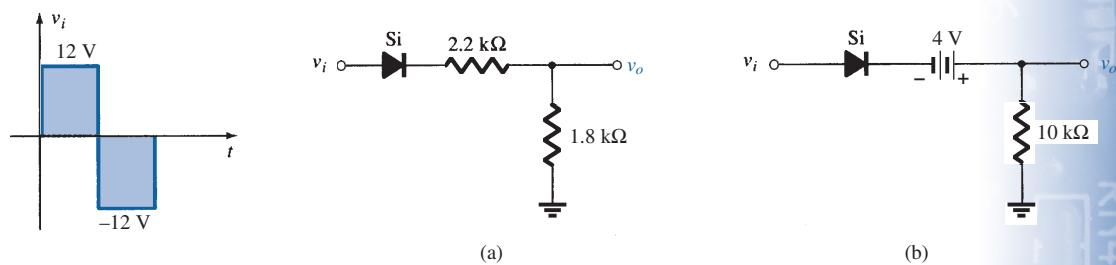

FIG. 177
33. Determine v_o for each network of Fig. 177 for the input shown.